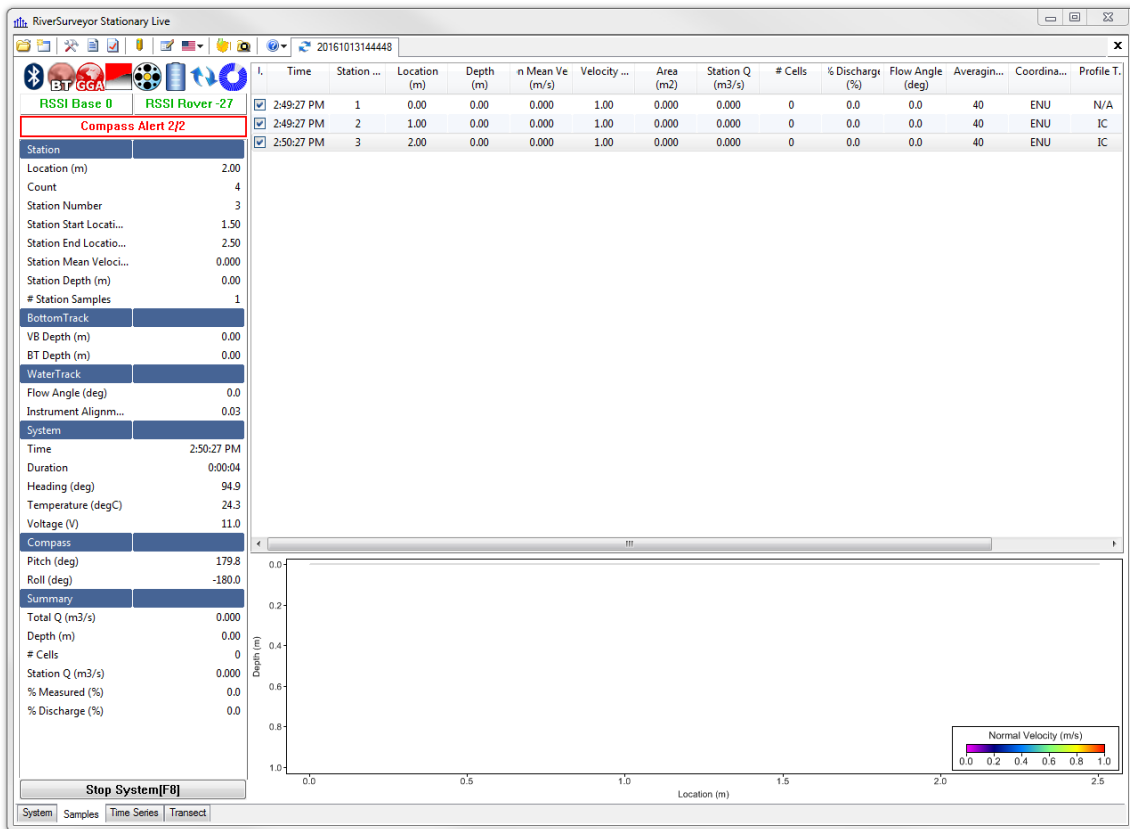

Figure 142. Samples Tab
- **Samples Tab:** You will be able to view information from each station in a tabular format. An example of the samples tab is shown in **Figure 142**. Through this tab, you will be able to edit stations by clicking the **edit stations** button for each station. This will bring up the Station Dialog, where you can edit the setup parameters for each station at any time.